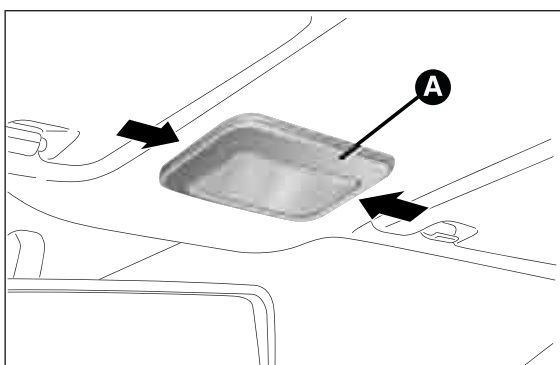
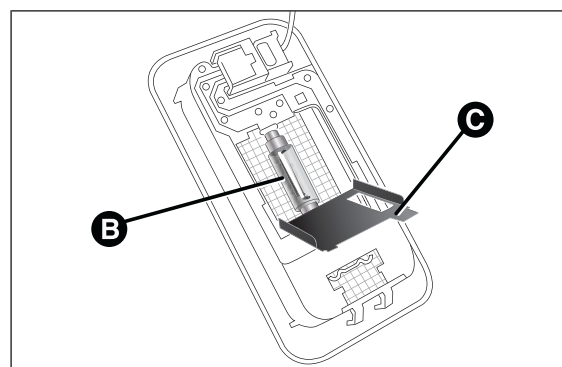

fig. 129
fig. 130
- ☐ operate in the point shown by the arrow and remove the roof light A fig. 129;
- ☐ open the flap C fig. 130 and replace the bulb B releasing it from the side contacts;
- ☐ Insert the new bulb B fig. 130 and make sure that it is correctly clamped between the contacts;
- ☐ reclose the flap C fig. 130 and fix the roof light A fig. 129 in its housing making sure that it is locked.